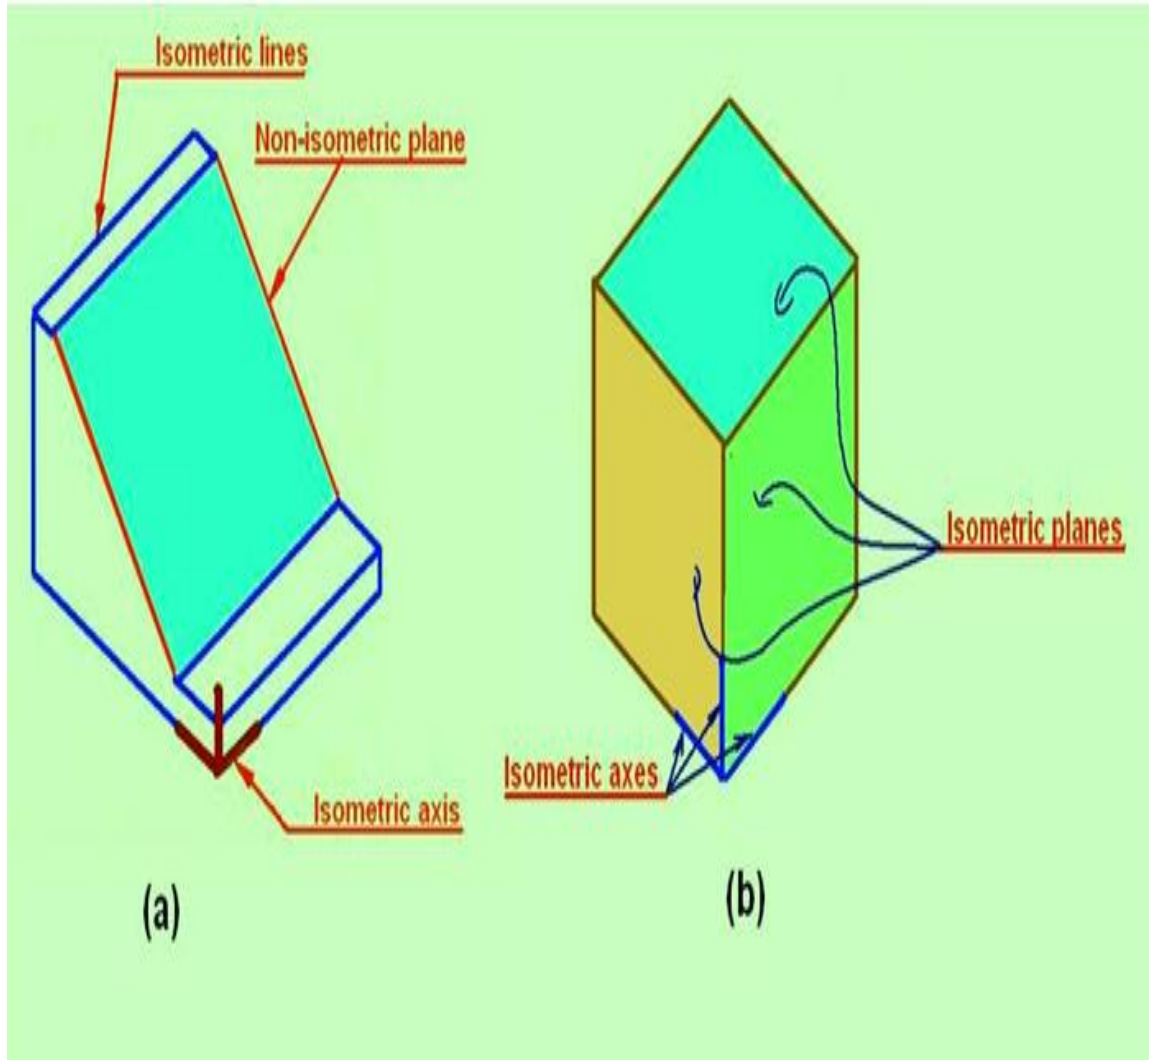

**Figure 10. shows different isometric axis depending on the direction of view point.**
- Figure 10(a) is a regular isometric, in which the viewpoint is looking down on the top of the object.
- In the reversed axis isometric, as shown in figure 10(b), the viewpoint is looking up on the bottom of the object, and the  $30^\circ$  axes are drawn downward from the horizontal.
- Figure 10(c)&(d) show the long axis isometric, where the viewpoint is looking from the right or from the left of the object, and one axis is drawn at  $60^\circ$  to the horizontal. While drawing the Isometric view, first the view point will have to be decided for obtaining the maximum technical information.